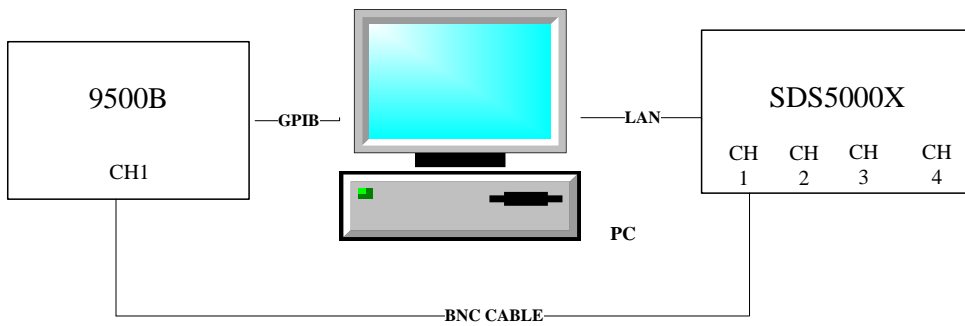

Figure 8 Connecting test instruments for Clock\Trigger Delay\Trig Level
1. Connect the selected channel of the oscilloscope to the 9500B shown as in Figure 8.